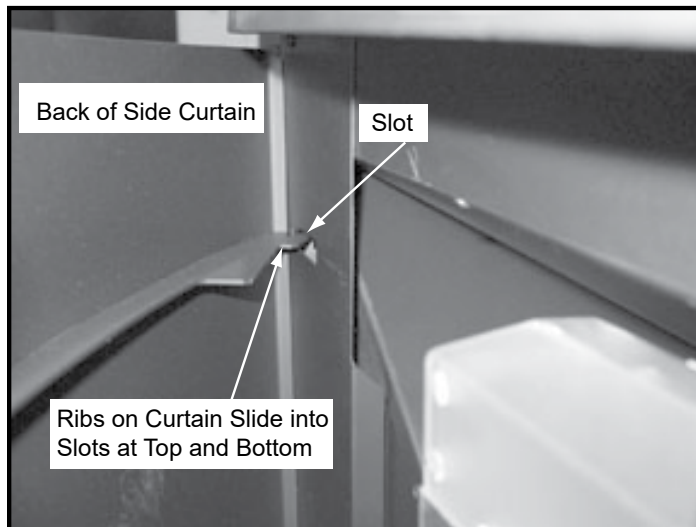

Figure 25.1
- Remove the right upper and lower side curtains by loosening 7/16" nut in the back and lift off of the appliance. When re-installing flex curtain to re-attach (**Figure 25.1**).
- Remove both upper and lower side curtains (**Figure 25.1**). Remove the upper and lower rear curtains (**Figure 25.3**).